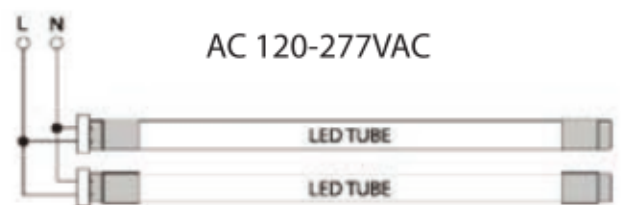

Figure 2
4. Connect line VAC to the lampholder non-shunted socket, L (line) to one lead, N (neutral) to other lead as shown in figure 2.